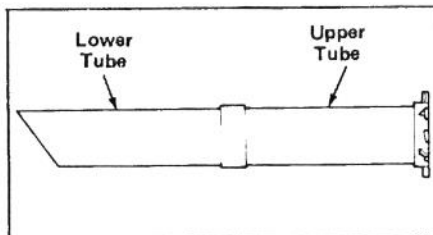

Fig. 3
3. Slide upper and lower tubes together as shown in Figure 3.